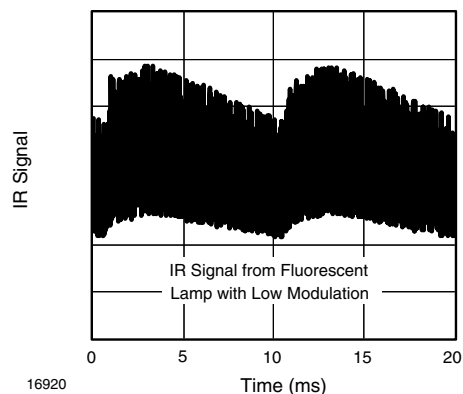

Fig. 14 - IR Signal from Fluorescent Lamp with Low Modulation
- Strongly or weakly modulated noise from fluorescent lamps with electronic ballasts (see figure 14 or figure 15)